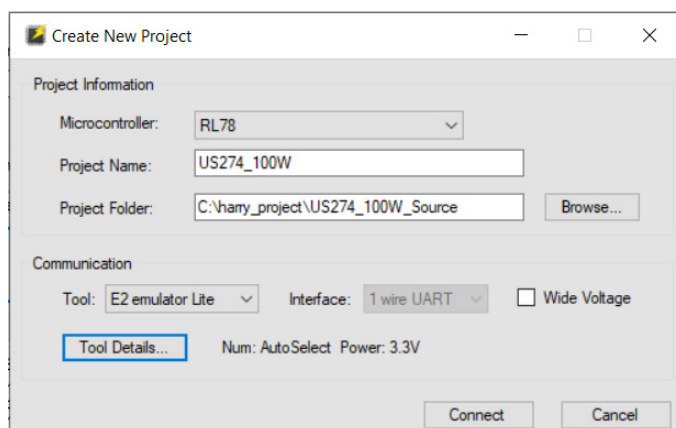

Figure 5. New Project Window
5. Create a “New Project”. See Figure 5.